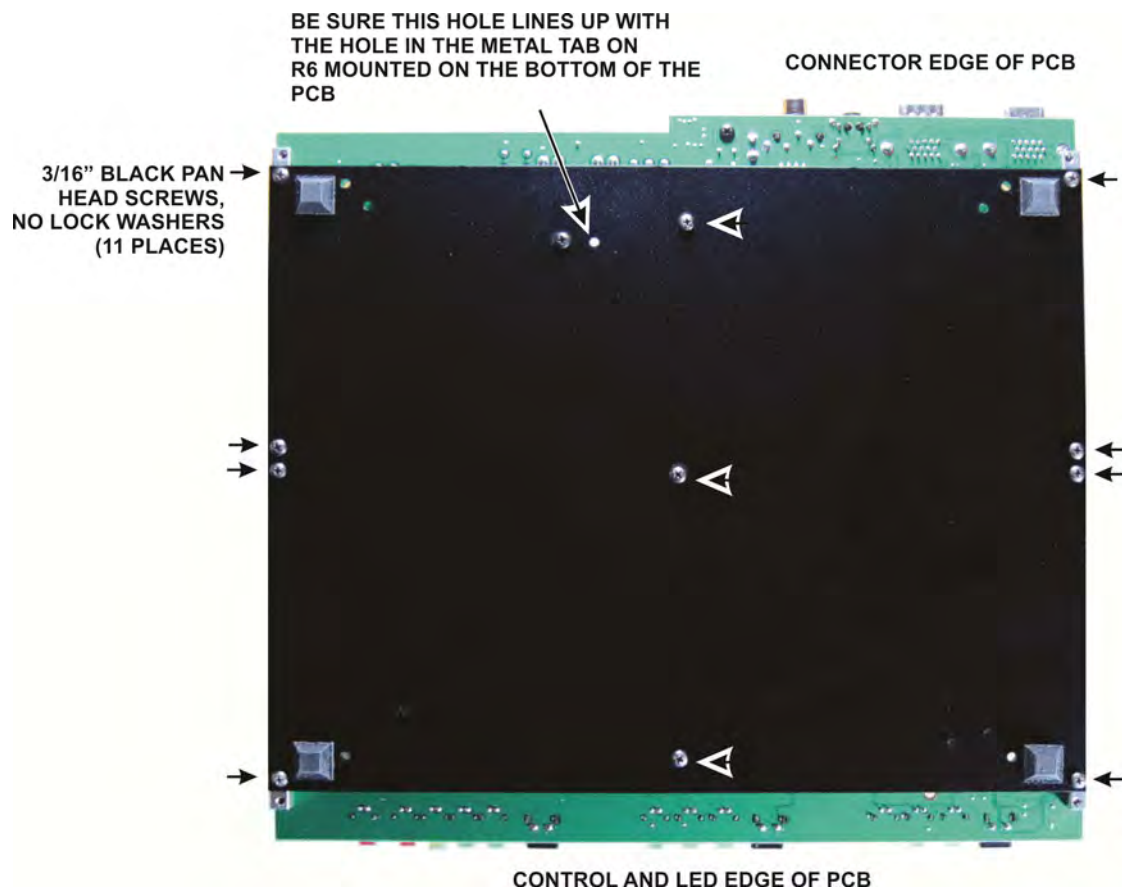

Figure 16. Installing the Bottom Cover.
□ Attach the bottom cover as shown in Figure 16. Note that the bottom cover only fastens to one of the two screw holes in each of the 2D fasteners mounted at the corners of the circuit board. The remaining screw holes in those 2D fasteners will be used to secure the front and rear panels. When positioning the bottom cover, be sure the open hole shown in Figure 16 lines up with the hole in the tab for R6 mounted on the circuit board.